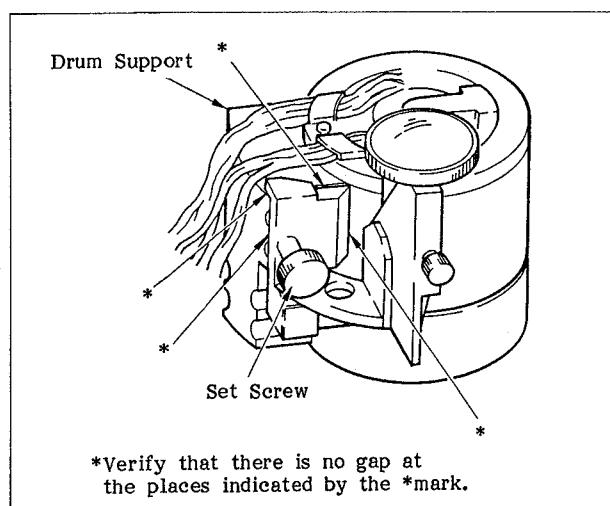
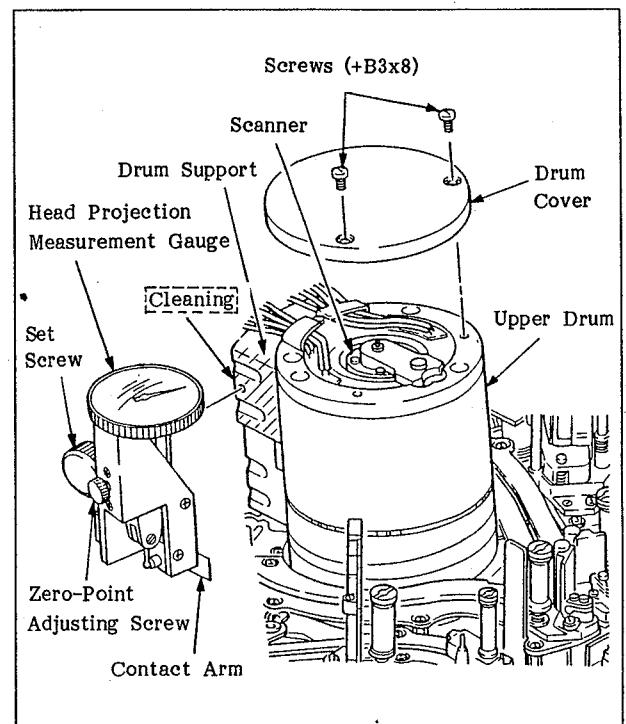

Fig. 5-22 Head Projection Check (2)
Fig. 5-21 Head Projection Check (1)
5. Mount the head projection measurement gauge in the position shown in Fig. 5-21. Clean the drum support and the mounting surface of the tool with a cloth (or gauze) moistened with alcohol before mounting it. After cleaning, tighten the set screws while pushing the tool down and in the direction of the upper drum at the same time so that there is no gap between the drum support and the tool, as shown in Fig. 5-22.